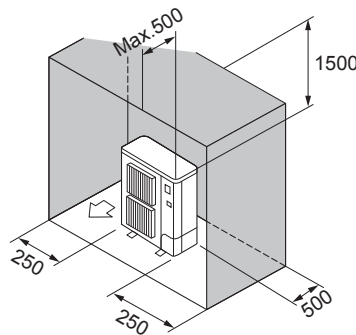

Fig. 2-8
- ⑥ Obstacles at rear, sides, and above only (Fig. 2-8)
- ⑦ Obstacles at rear, sides, and above only (Fig. 2-8)